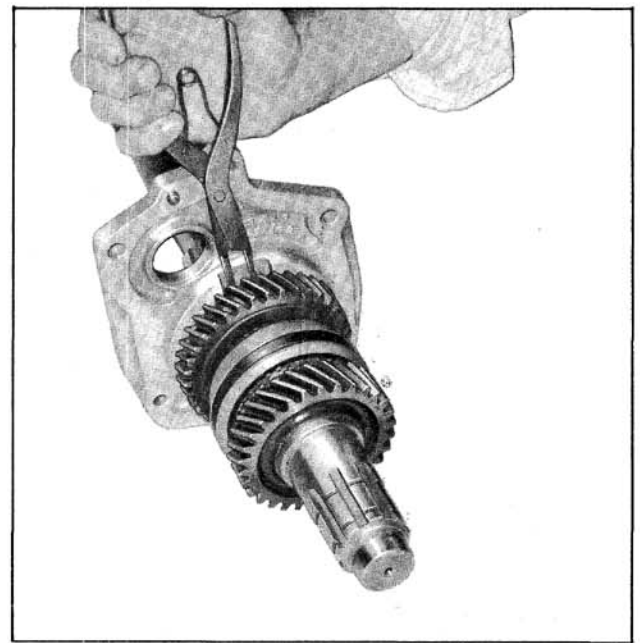

Fig. 7-70 Installing Rear Bearing
9. Install the rear bearing retainer. (Fig. 7-70) Spread the snap ring in the plate to allow the snap ring to drop around the rear bearing and press on the end of the mainshaft until the snap ring engages the groove in the rear bearing.